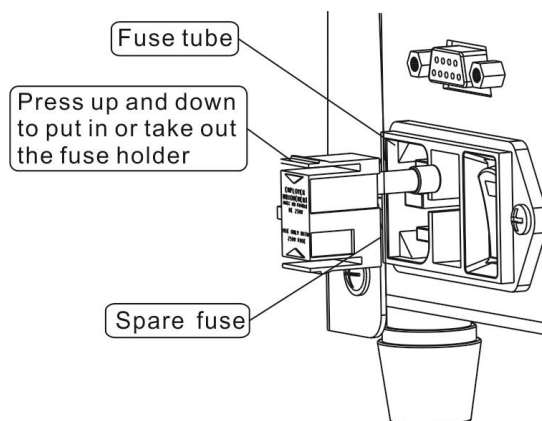

Figure 4
- (9) Computer communication interface: RS-232 communication protocol;
- (10) Fan: cooling fan inside the device;
- (11) Jack for parallel connecting dedicated probe for channel 2: used for connecting external probe into the controller;
- (12) Jack for parallel connecting dedicated probe for channel 1: used for connecting external probe into the controller;
- (13) Power switch: the instrument starts work when it is switched on;
- (14) Fuse holder: used for replacing fuse, see Figure 4 for fuse replacement.